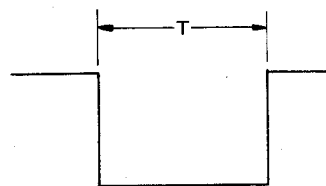

Figure 104.
1. Put the set in play (HS) mode
2. Observe the output of I2005 (pin ⑦) on oscilloscope, and adjust R2029 (HSFV-1 control), R2031 (HSFV-2 control) and R2030 (HSFV-3) so that the resultant level will be as shown in Fig. 104.